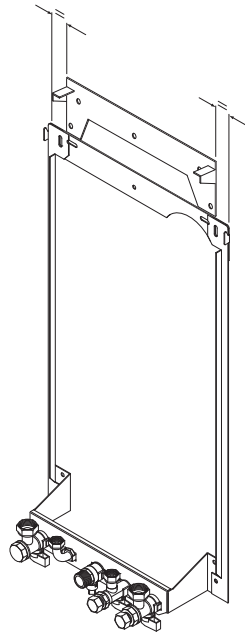

Fig. 4
3. Position the 'GasSaver' mounting bracket centrally above the boiler wall plate. Align the smaller flange against the wall plate with the larger flange and two side tabs uppermost (Fig. 4). Mark the most suitable fixing holes.